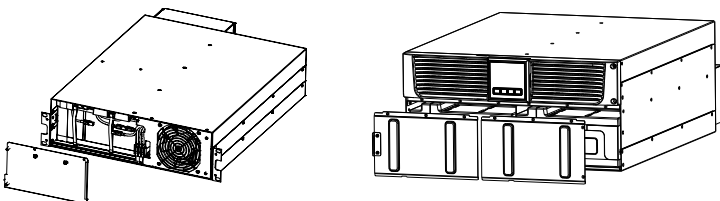

Figure 3.9. Removing the Battery Protection Plate
2. Remove the battery protection plate (see Figure 3.9):